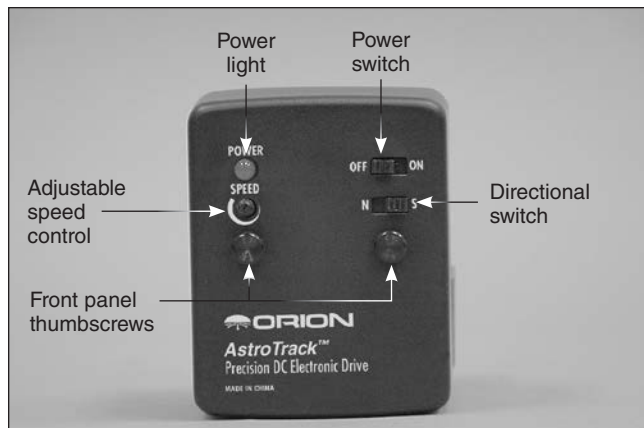
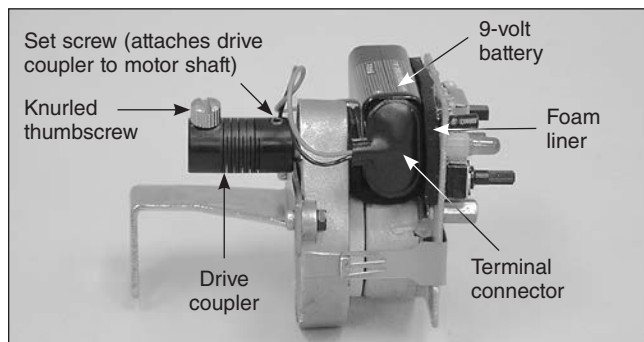
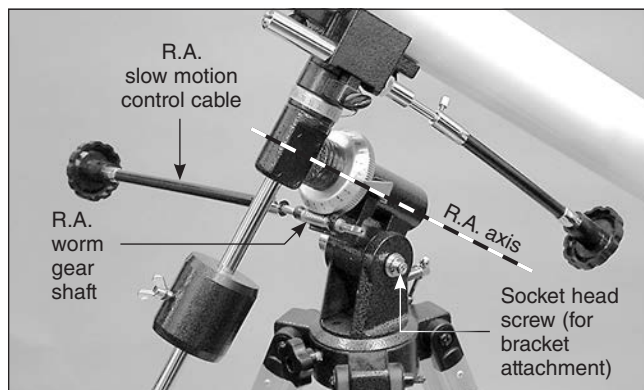

Figure 1: The front panel of the AstroTrack
Figure 2: The interior of the AstroTrack. The battery goes in the U-shaped foam liner and the terminal connector snaps on the battery.
Figure 3: The right ascension (R.A.) slow-motion control cable needs to be mounted on the left end of the R.A. worm gear shaft.
Make sure the power switch is in the OFF position. Unscrew the two thumbscrews on the front panel and remove the housing (Figure 1). You will notice a U-shaped foam liner inside. Place the battery in the liner and snap on the terminal connector (Figure 2). Replace the housing, tucking the battery wires inside so they're not hanging out. Thread on the two thumbscrews to secure the housing.
When facing the front of the mount, the right ascension (R.A.) slow-motion control cable should be mounted on the left end of the R.A. worm gear shaft (see Figure 3). If it is mounted on the right end, remove it from the mount, and reinstall it on the left end of the shaft. Loosen the knurled thumbscrew on the end of the motor's drive coupler (see Figure 2). Use the provided large Allen wrench and remove the socket head screw on the right side of the equatorial mount (see Figure 3). Orient the motor drive so that the drive coupler slips over the right end of the R.A. worm gear shaft. Now, attach the motor to the mount by inserting the socket head screw through the slot in the motor drive's bracket, and re-threading it into the mount. Tighten the thumbscrew on the end of the motor's drive coupler. The thumbscrew should seat into the groove on the end of the worm gear shaft. You may need to rotate the R.A. worm gear, using the R.A. slow-motion control cable for the thumbscrew and the groove to line up.
3. Is the set screw that attaches the drive coupler to the motor drive tight (see **Figure 2**)? If it isn't, the coupler may be slipping on the motor's output shaft. Use a 2mm Allen wrench to tighten the set screw, if necessary.